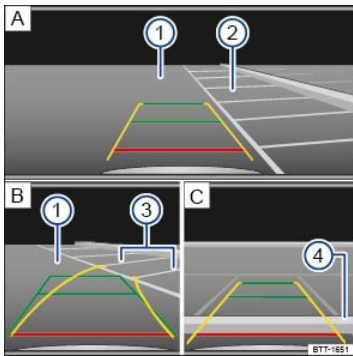

Fig. 128 Orientation lines for perpendicular parking.
Key to ⇒ Fig. 128 :
- Position the vehicle in front of the parking space ⇒ *Fig. 128* **A**.